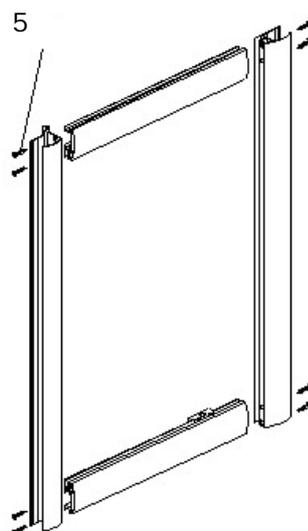

Figure 6
6. Use ST4x30 screws (5) to connect the top and bottom rail profile (1), pivoting side fixed profile (4) and fixed profile (17) as shown in figure 6.